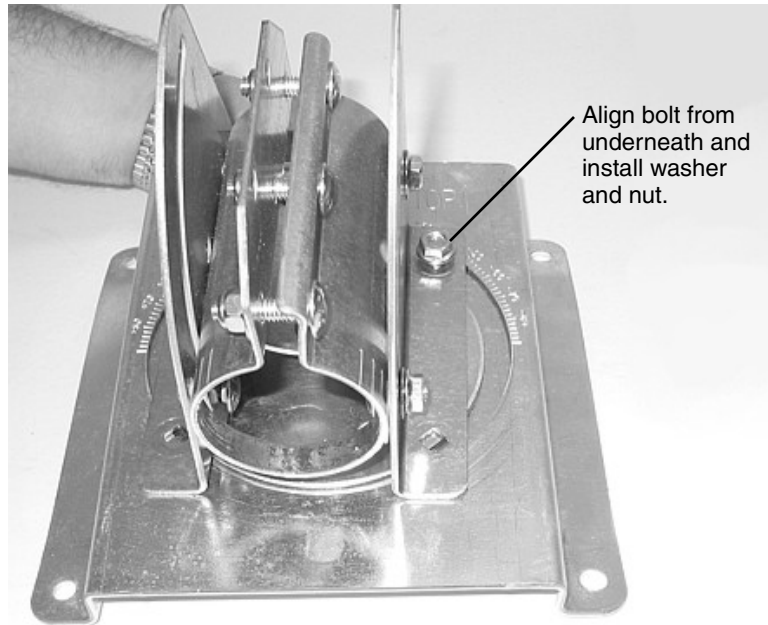

Figure 10: Aligning the Az/el cap bolts
5. Install a bolt from underneath the revolving plate. While holding it with one hand, install the 7/16-in. flat washer and nut. See Figure 10.